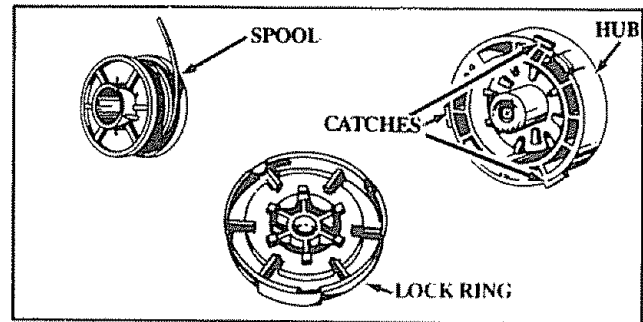
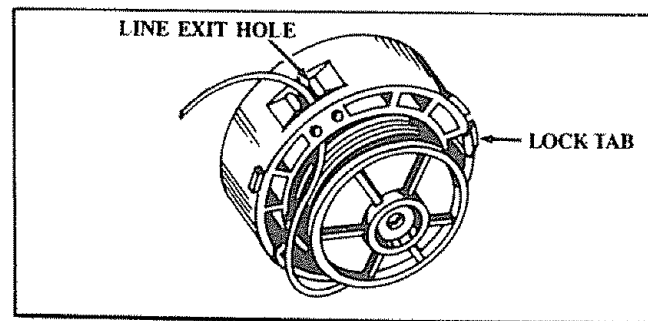
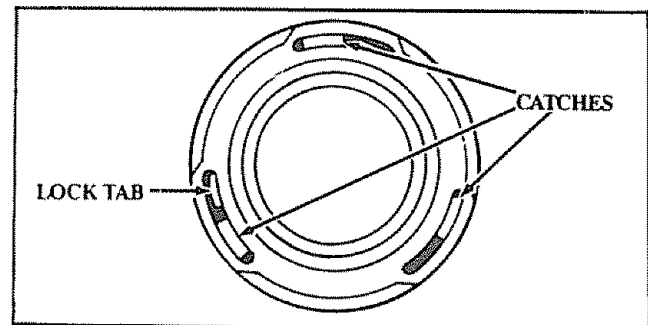

Figure 22
Figure 23
Figure 24
- Remove the Lock Ring and Spool. Figure 22.
- Insert the end of the Line in the Line Exit Hole as shown in Figure 23. Place Spool in Hub. Make sure the Trimmer Line is not caught between the rim of the Spool and the Hub.
- Check to make sure all three Catches (Figure 22) and the Lock Tab (Figure 23) are properly fastened as shown in Figure 24. Then test the Lock Ring by trying to turn it counterclockwise.